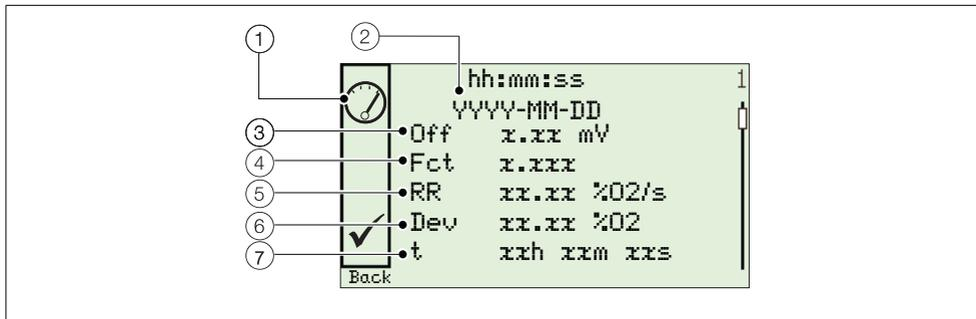

Fig. 9.2 Typical Performance Log and Performance Code Structure
When the *Performance Log* is selected, an icon (1) in Fig. 9.2) at the left side of the display indicates a successful or failed calibration or accuracy check; or if a new probe / cell has been fitted. Icon types are shown in Table 9.6 below: